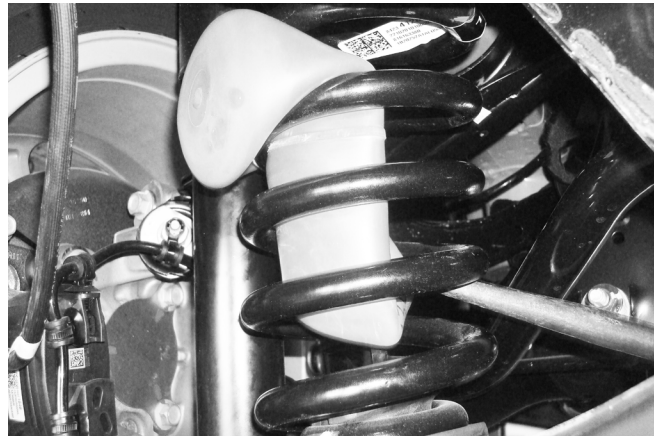

Fig. 10
3. Insert the flattened end of the air spring (A) into the top opening in the coil spring, with the stem at the bottom (Fig. 10). Push the spring down into the cylinder by hand or with a blunt instrument such as a spoon-type tire iron.